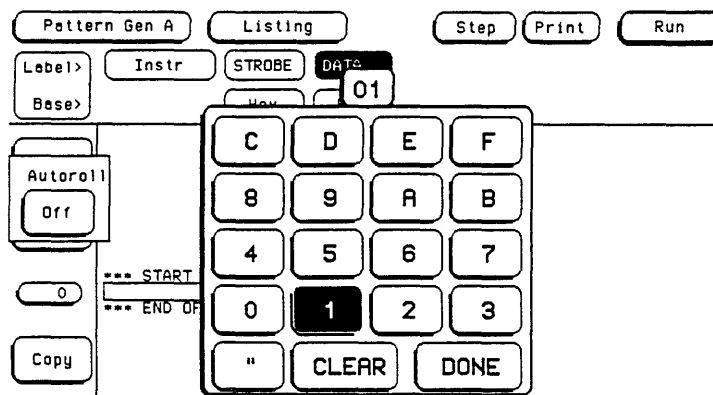

Figure 3-8. Numeric Entry
2. Touch 1 as shown in figure 3-8, then touch Done.